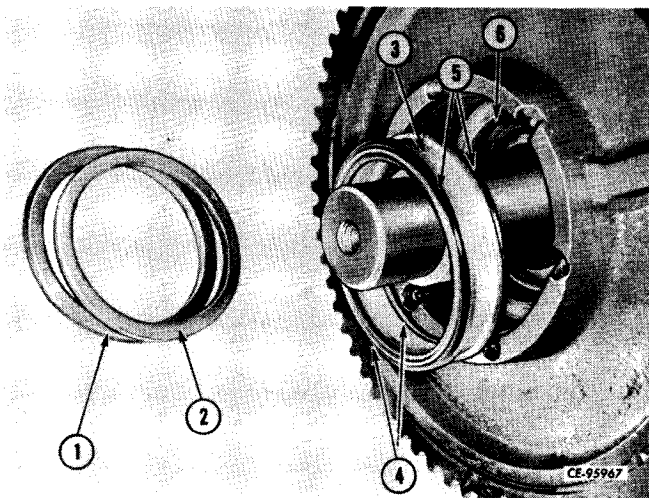

Figure 14-26
Lubricate and install inner seal (6, Fig. 14-26) in clutch hub. Lubricate new "O" rings (4, 5) and position them on spacer (3). Install spacer with "O" rings in hub and work spacer into inner seal (6). Use fingers to set inner "O" rings (4) into seal (6) about its entire diameter. Make constant checks until seals are properly seated. Lubricate outer seal (2) and install evenly into hub and over "O" rings.